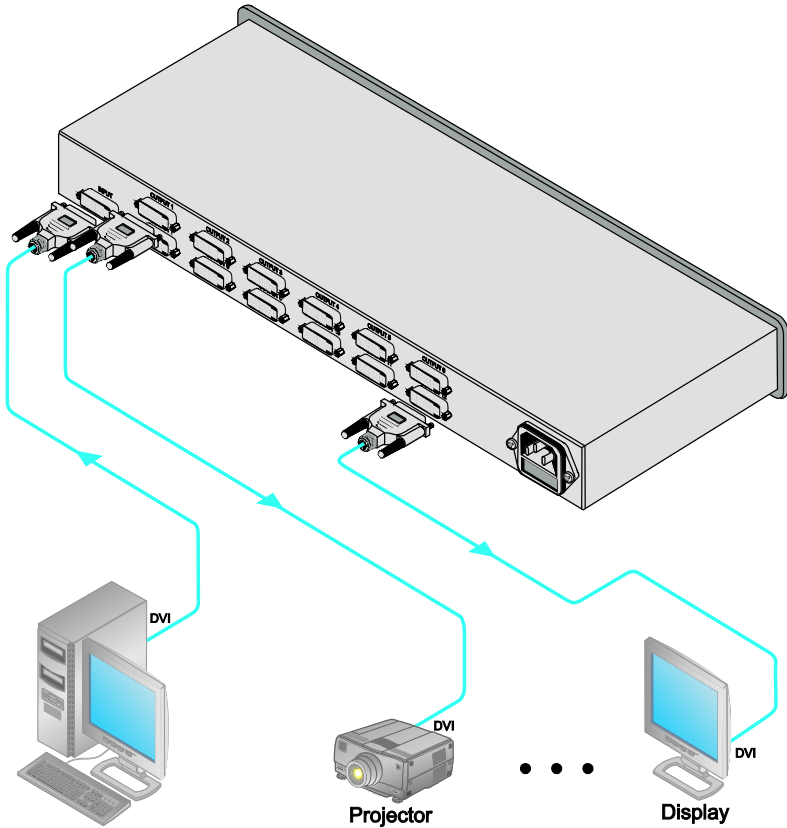

Figure 2: Connecting a VM-12HDCP 1:12 DVI Distributor
To connect the **VM-12HDCP** as illustrated in the example in Figure 2, do the following1:
3. Connect the power cord to the mains electricity (not shown in Figure 2).